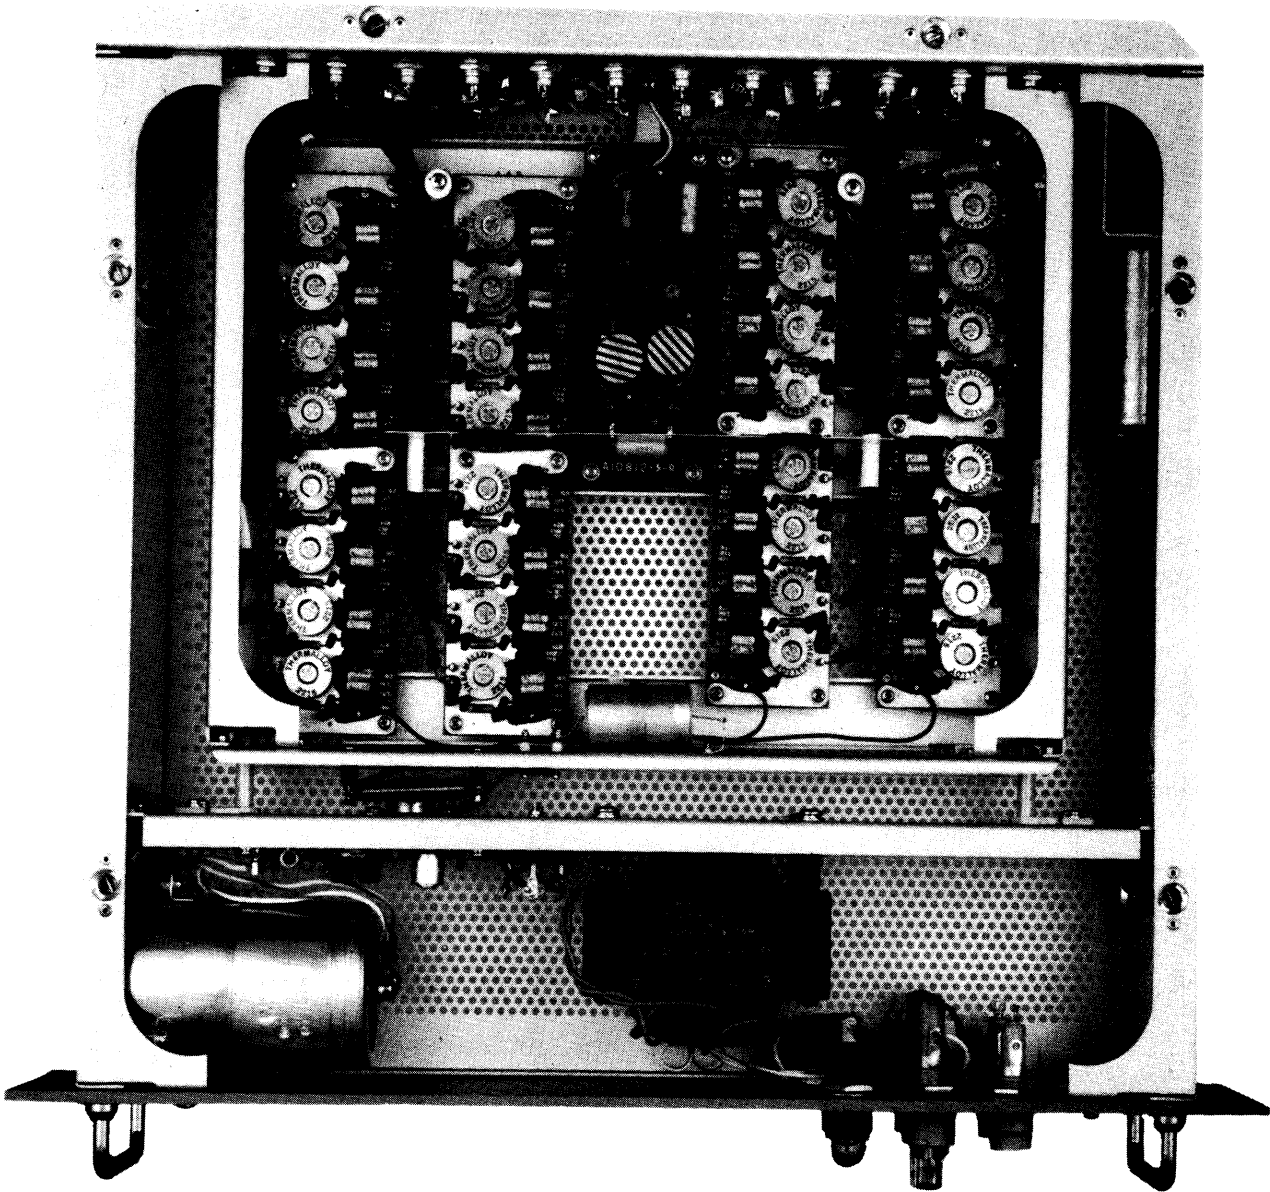

Figure 5-1 Top View, Cover Removed, LMC-32
(2) For aid in the location of components, refer to figures 5-1 to 5-4 inclusive.